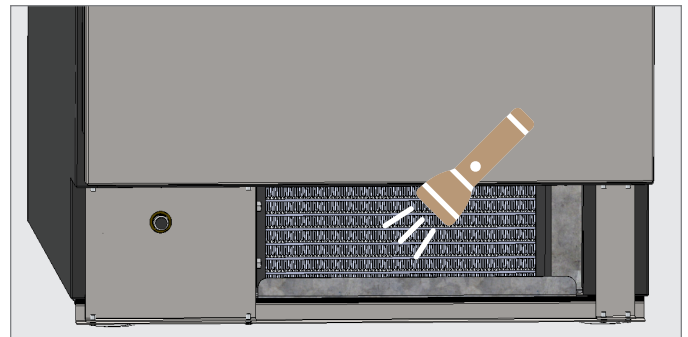

FIG. 3. Verify all blockages have been removed.
3. With the dirt removed from the surface of the coil, use a flashlight to verify you can see through the coil. See fig. 3.